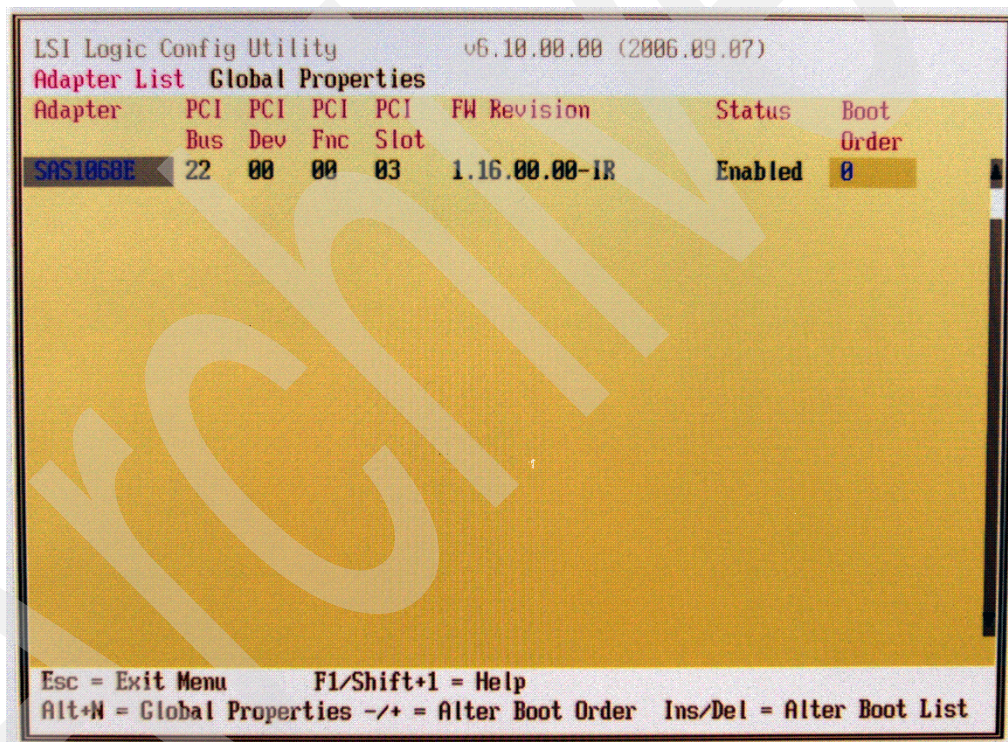

Figure 9-12 Select SAS adapter
2. The utility starts, as shown in Figure 9-12. Highlight the adapter and press Enter to open the adapter's BIOS.